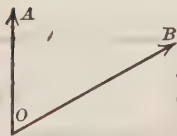

FIGURE 529.
7. In Figure 529,  $OA$  and  $OB$  are vectors representing forces of 16 and of 24 lbs respectively, acting at an angle of  $60^\circ$ . Complete the